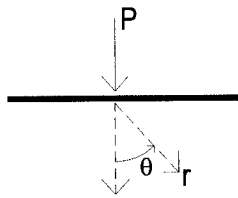

Fig 1a
1. (a) The stress function, $\phi = Cr\theta\sin\theta$ is a valid stress function for a line load P/unit length on the edge of a half space (C constant). Determine an expression for the constant C in terms of the load P and show that the radial stress is constant on the circumference of a circle that is tangent to the surface at the point of load application – see Fig. 1a. What are the other stress components on such a circle. (10 marks)